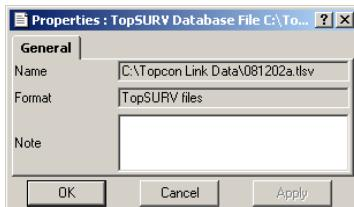

Figure 4-52. Properties for TopSURV File
- TopSURV files – displays the file name, path to the opened file, file format, job name and surveyor's name (Figure 4-52).